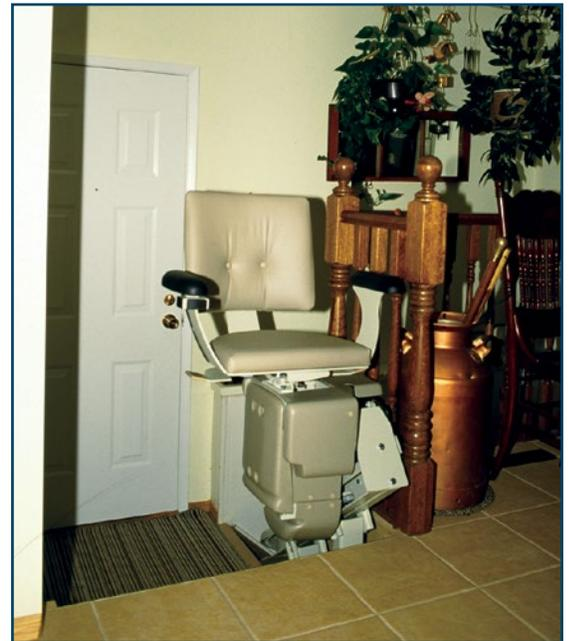

Figure 4: Stair chairlift
**Stair chairlifts** consist of a seat that travels up and down a stairway (see figure 4). The seat runs on a track or rails mounted either on the surface of the stairs or on an adjacent wall. If a stair-mounted track is used, it reduces the usable width of the stairs. This is of particular concern on narrow stairs.